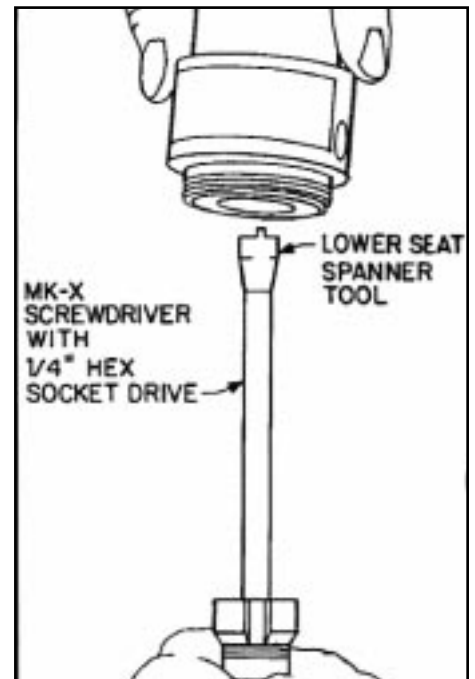

Figure 5
5. Use the correct blade screwdriver (1/8" for the MK-X) and unscrew the lower seat. (Fig. 5&6)